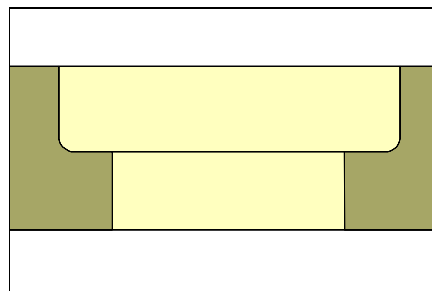

Figure 3: Mill a step into the edge of the PC board.
- 4B. Install an end mill into the chuck of a Precision Drill System. Set the speed to maximum and machine a step or lap joint in the edge of the PC board where the new base material will be installed. The depth and width of the step should be approximately 1/2 of the PC board thickness. (See Figure 3).